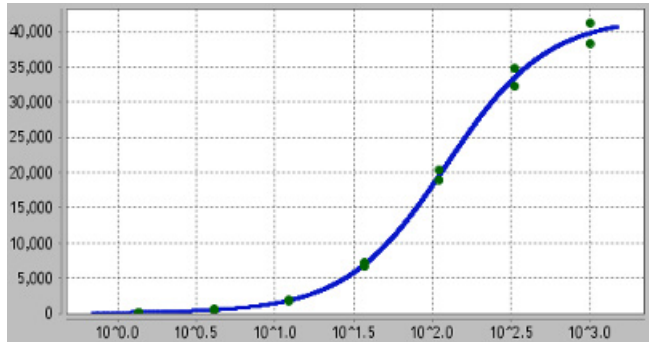

Figure 15. Example 5 Parameter Logistic chart.
- **5 Parameter Logistic (5PL)** (Figure 15): This non-linear regression model is generally considered the best for fitting sigmoidal immunoassay calibrator curves and is recommended for Q-Plex kits.